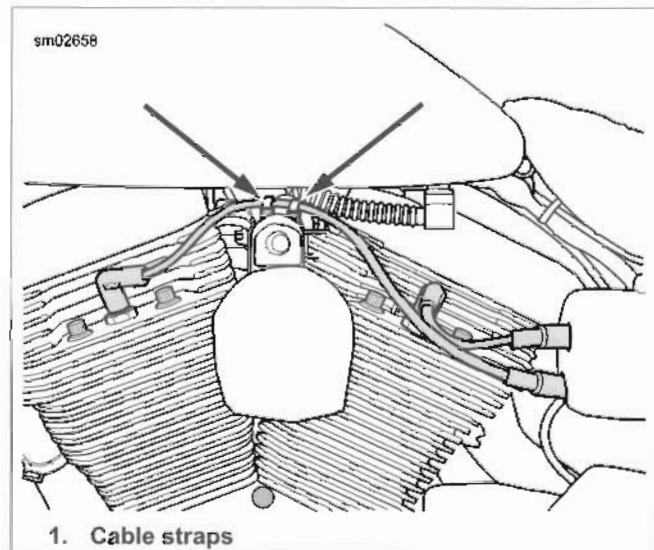
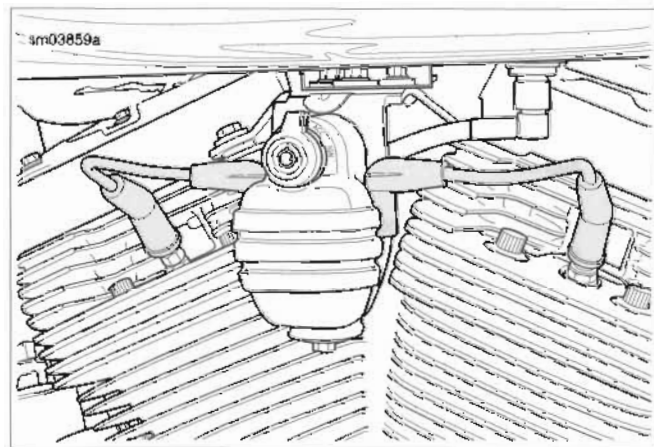

Figure 7-77. Spark Plug Cable Routing (All But FXSB)
Figure 7-78. Spark Plug Cable Routing (FXSB)
2. **All but FXSB:** see Figure 7-77. Remove cable straps on horn bracket for front spark plug cable.
1. See Figure 7-77 (all but FXSB) or Figure 7-78 (FXSB). Connect spark plug cables to ignition coil and spark plugs. Fasten boots/caps securely. Tight connections provide the necessary moisture-proof environment for the ignition coil and spark plug terminals.